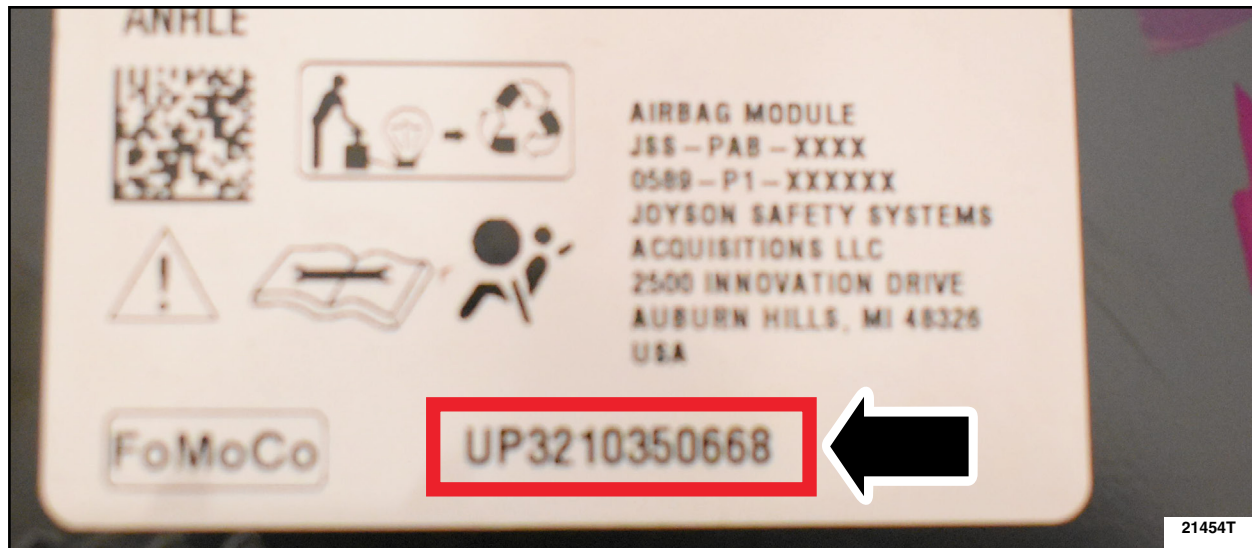

FIGURE 19
22. Submit a readable photo of the serial number from the original air bag assembly. See Figure 19.